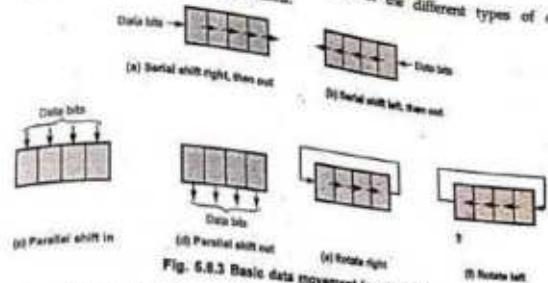

Fig. 5.8.3 Basic data movement in registers
- Fig. 5.8.3 gives the symbolical representation of the different types of data movement in shift register operations.